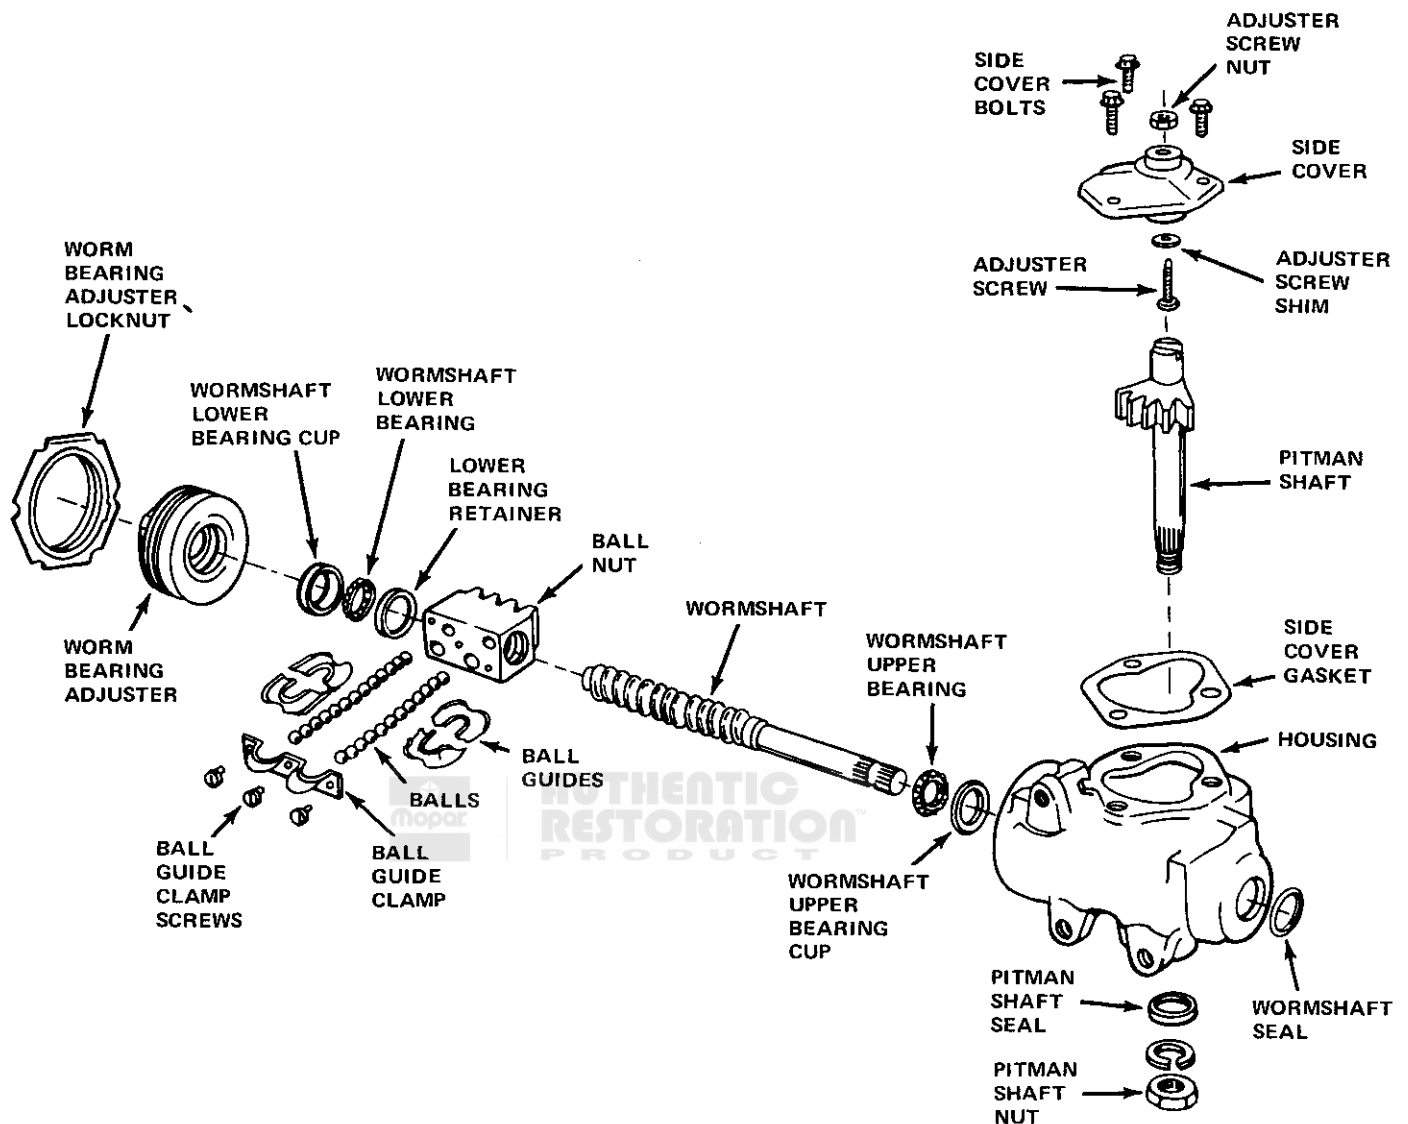

Fig. 2K-5 Steering Gear—Left Hand Drive Vehicles
- (1) Mount steering gear in vise. Clamp vise jaws on gear mounting bosses only.
- (2) Place ball nut and pitman shaft in centered position. Rotate wormshaft stop-to-stop and count total number of turns. Turn wormshaft back 1/2 total number of turns to center shaft and nut.
- (3) Remove pitman shaft adjuster screw locknut (fig. 2K-5).
- (4) Remove side cover attaching bolts (fig. 2K-5).